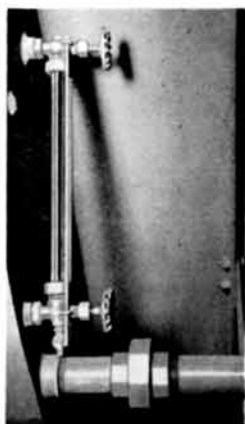

Fig. 30
5. Check the quantity of water in the cooling water system. The sight glass attached to the water expansion tank should show water at all times. See Fig. 30.